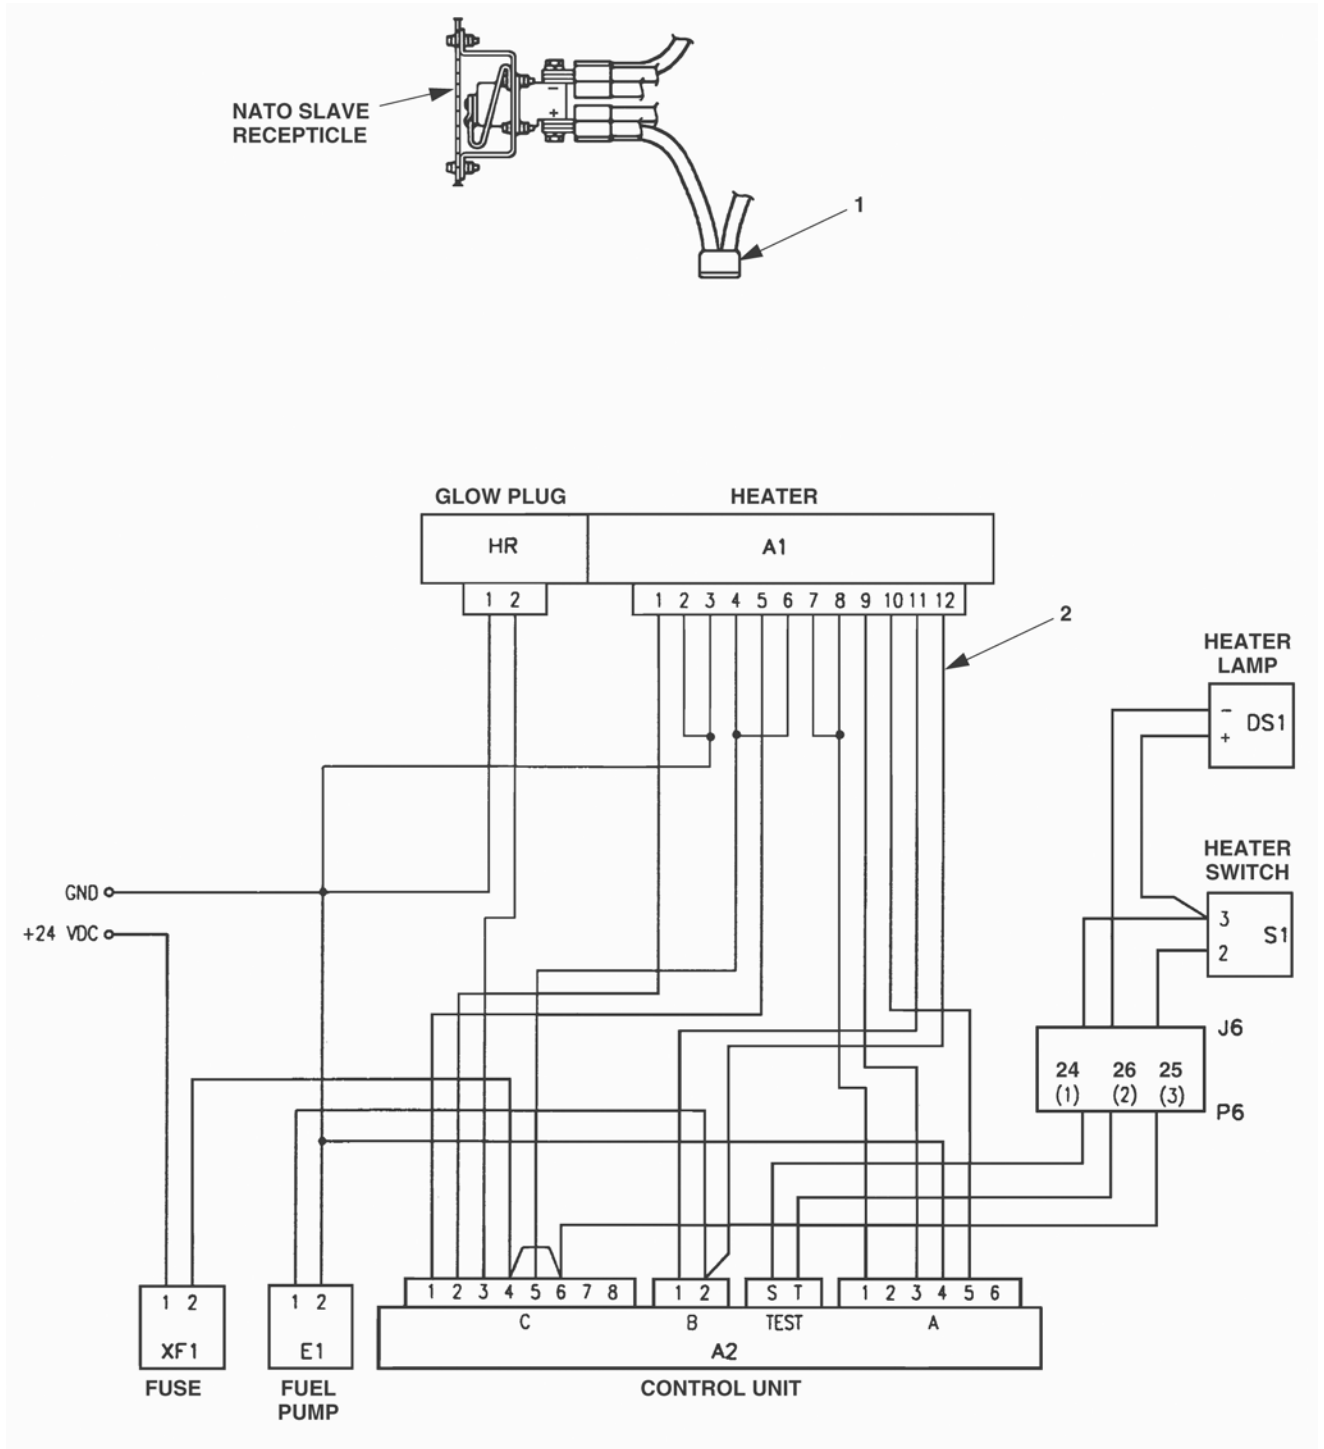

Figure 4-34. Wiring Harness Removal.
8. Remove electrical leads from P6-24, 25, 26 in accordance with wiring diagram, Figure 4-34.
12. Remove fuse holder (1), Figure 4-34, from the wiring harness (2), from (+) terminal of slave receptacle, and reassemble existing hardware.
13. Remove wiring harness (2).